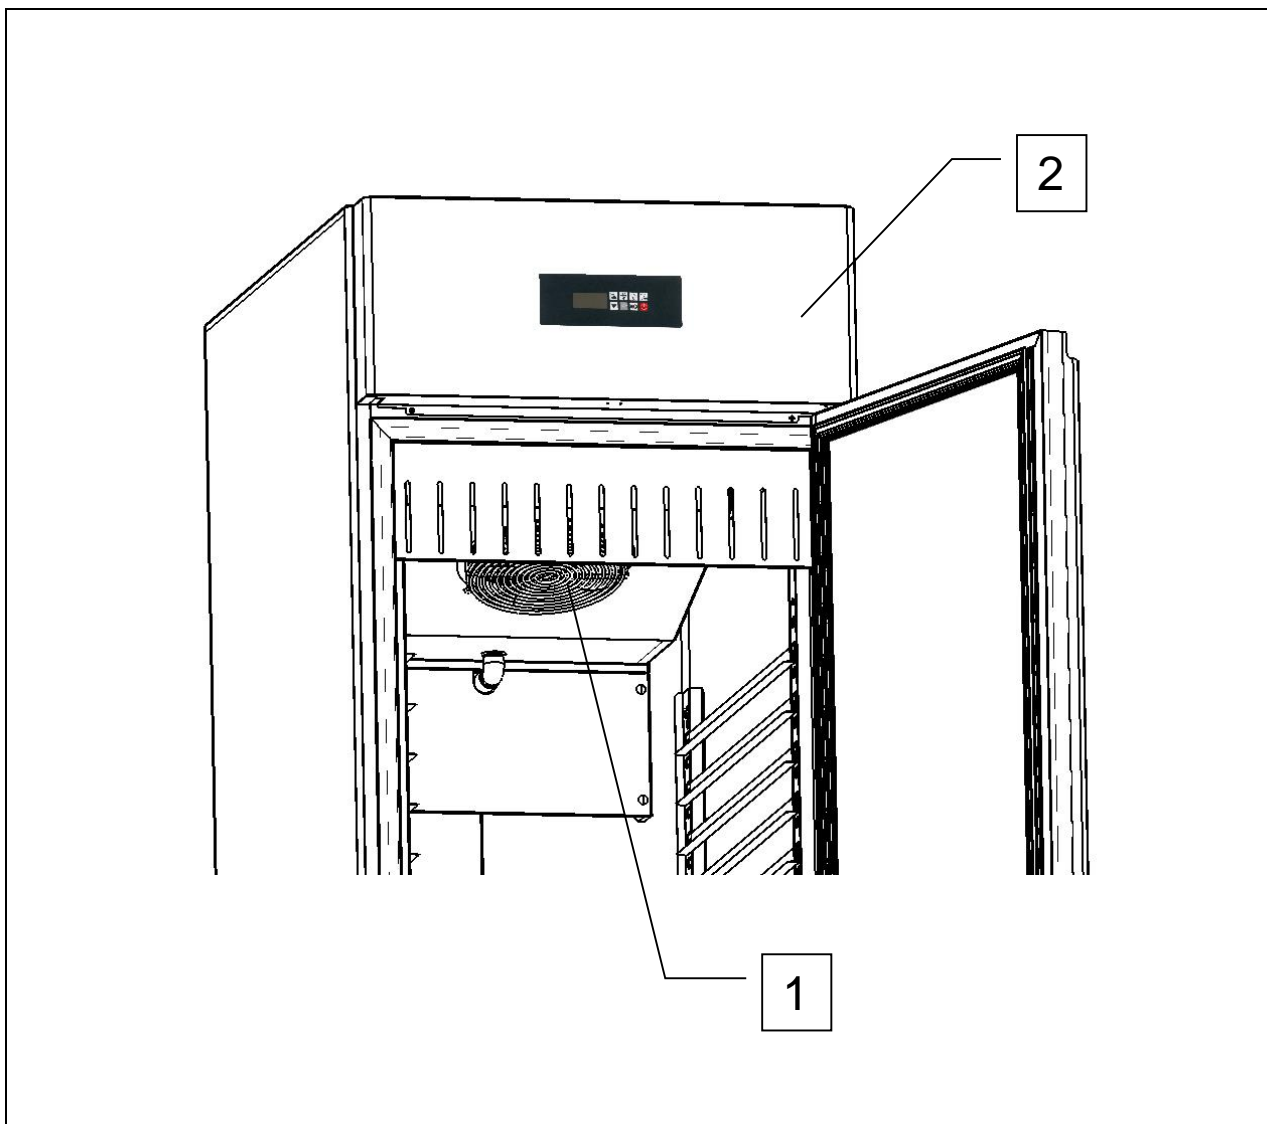

Fig. 5
- internal grille covering the condensing unit (ref. 1, fig.5);
- front panel covering the buffer unit cooling fan (ref. 2, fig. 5).